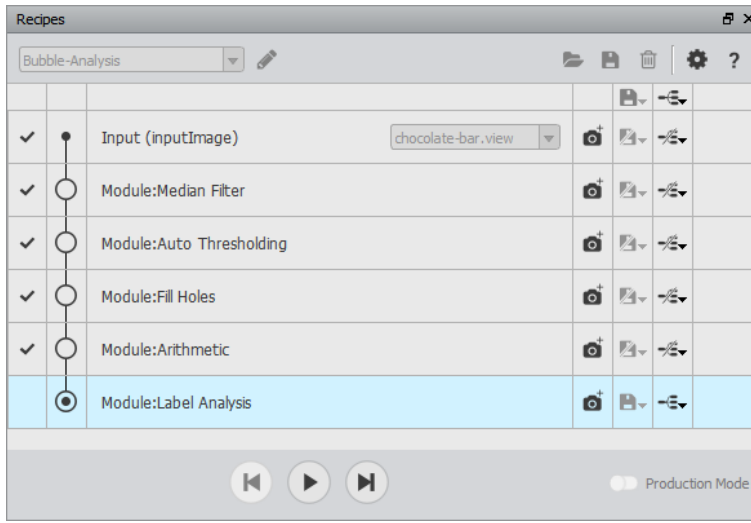

Figure 15.10: Breakpoint at the *Label Analysis* Step
- Set the recipe input to the extracted image (i.e., `chocolate-bar.view`) and set a breakpoint at the *Label Analysis* step (see Figure 15.10).